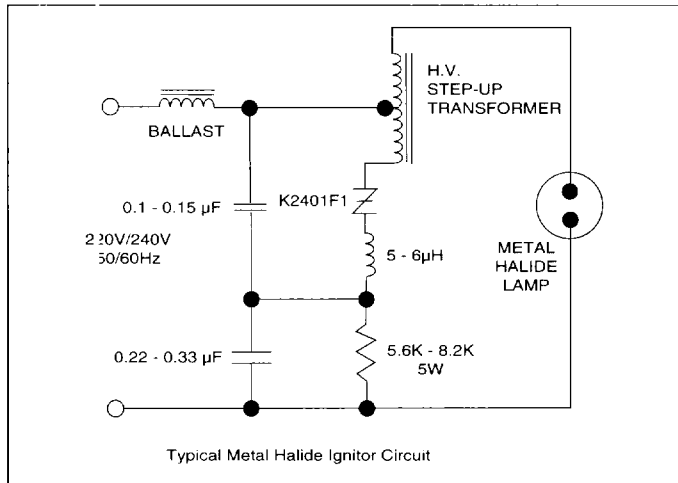
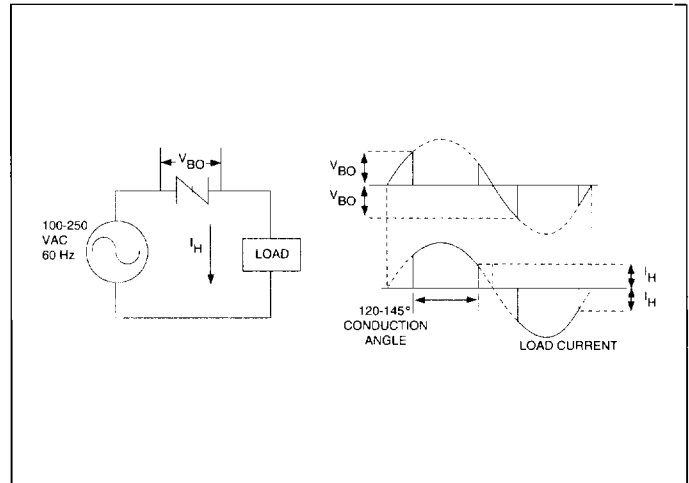

Figure 9.3 Typical Metal Halide Ignitor Circuit
Figure 9.15 Basic Sidac Circuit
- (8) See Figure 9.15 for clarification of Sidac operation.
- (9) For best Sidac operation, the load impedance should be near or less than switching resistance.
- (10) Teccor's new, improved series of sidacs is designed to ensure good commutation at higher switching frequencies as required in ignitor circuits for high intensity discharge (HID) lighting. A typical circuit for a metal halide lamp ignitor is shown in the schematic, Figure 9.3. With proper component selection this circuit will produce three pulses for ignition of Osram lamp types such as HQI-T70W, HQI-T150W, and HQI-T250W which require a minimum of three pulses at 4kV magnitude and $>1\mu\text{s}$ duration each at a minimum repetition rate of 3.3kHz.